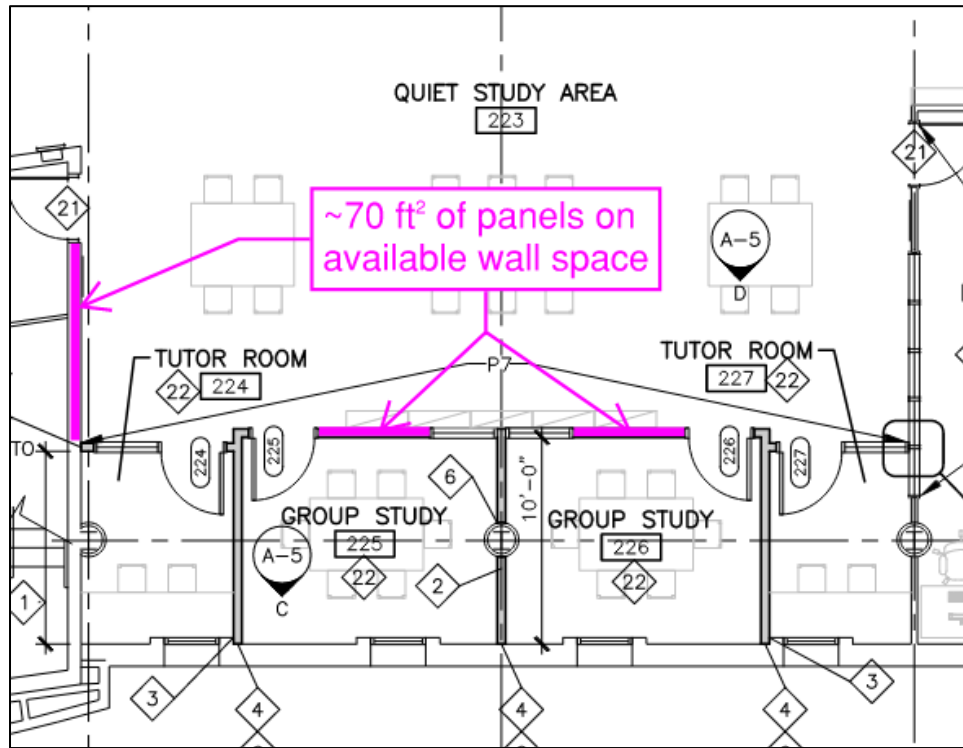

Figure 6: Recommended Wall Treatment Locations for Option #2 in the Quiet Study Area
- In addition, install approximately 70 ft² of 2” thick acoustical wall panels with a minimum Noise Reduction Coefficient (NRC) of 0.90 on the available walls in the Quiet Study. These panels should be mounted from 3 ft above the floor to 7.5 ft as shown in Figure 6. Suitable products include the following: